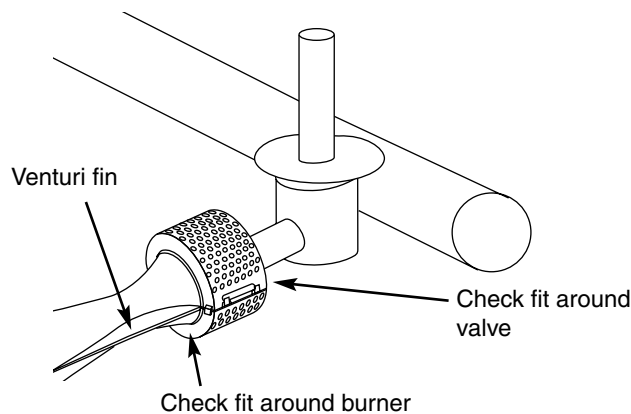

Figure 21
- j) Reinstall the Spider Stopper Guards. Slightly rotate the Spider Stopper Guards so that the seams are in line with the Venturi fins. There should be no gaps in the seams or in the fit around the burners and valves. Figure 21.